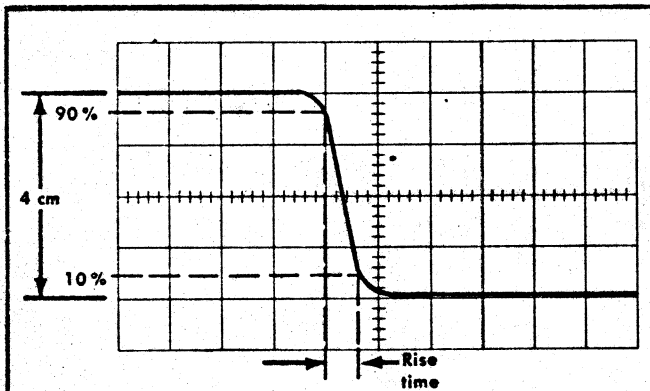

Fig. 5-2. Measuring negative going pulse risetime.
b. Check for the same response as seen in steps (d) and (e) of the next check (5).
e. Check the negative risetime of the display (see Fig. 5-2); it should measure .65 nsec or less, from the 10% point to the 90% point.